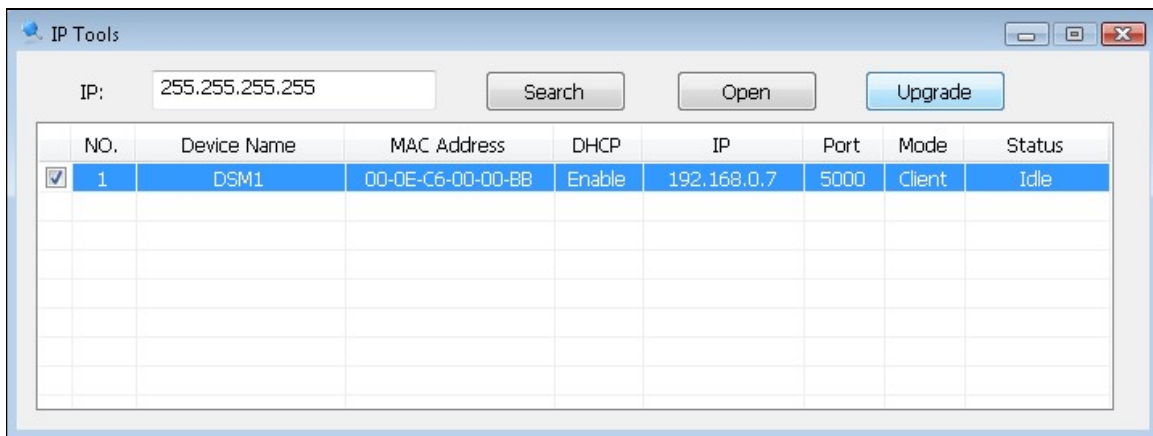

Figure 37
3. Launch the IP Tools application as referenced in Section 3.9, and locate the ObserverIP on your network. Reference Figure 37. Select the Upgrade button to begin the firmware upgrade. As shown in this figure, the IP address of the ObserverIP is 192.168.0.7. Make a note of your IP address (your results will vary).